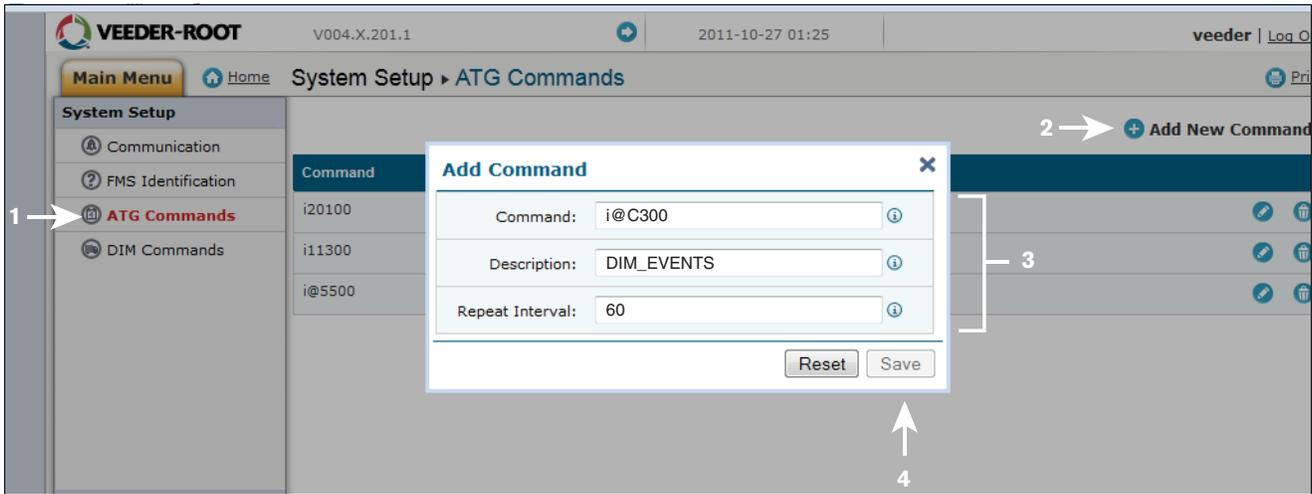

Figure B-6. Entering ATG Command
- Go to the “DLSetup” application by clicking on white arrow in blue circle top center of screen (see Figure B-6), and under “System Setup”, click on “ATG Commands (1 in Figure B-6)”. Then click on the “+ Add New Command” text at top right of screen (2 in figure). When the Add Command dialog box appears enter the command “i@C300”, add the Description “DIM_EVENTS”, set the Repeat Interval to “60” (3 in figure) and click Save (4 in figure).